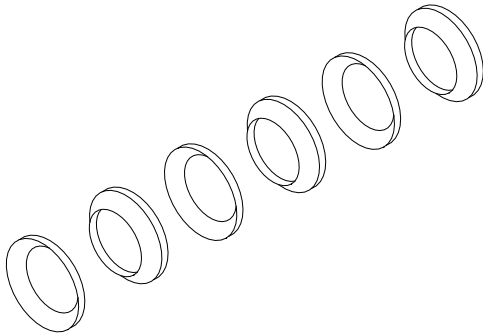

Figure 8: Spring Washer Assembly
10. Place the six (6) (Belville) spring washers onto shaft with the first, third, and fifth ones with the cupped side facing the electrode (front of shaft), and the second, fourth and sixth ones with the cupped side facing the rear of shaft (see Figure 8).